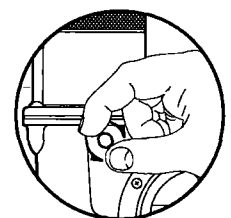

Figure 6
2. Turn the test knob 1/4 turn to the right (clockwise), for low test indication (Figure 6).